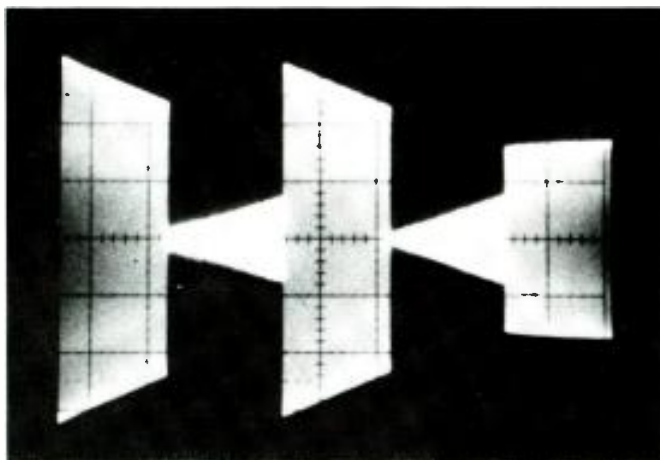

Fig. 1. Low frequency pulse results before modification
Let us consider Figure 1. This represents a three-tower directional antenna system. Major points where changes can affect Z_{cp} are indicated and discussed in the following paragraphs.
current phase to the respective tower, the loading on the power divider (PD) network comprised of L1 through L6 and C1 will change. This changes the impedance of the PD at Z_{PD} (Figure 1) and this in turn changes Z_{CP} . Correction of this change is accomplished by adjusting the appropriate leg controls.
AFTER THE HIGH FREQUENCY TESTS described in Part 1 were completed and corrections made, low frequency pulse tests were begun. The setup procedure used previously remained the same for these tests. The frequency chosen was 50 Hz, to indicate a worst case condition for testing. As with the high frequency tests, the low frequency tests were set up for two successive "bursts" of the square-wave, with a $\frac{1}{2}$ second "off" time. The initial results can be seen in Figure 1. The amount of waveform "tilt" seen here was thought to be caused by a combination of three factors: (1) the audio input transformer; (2) coupling capacitors of an insufficient value in the modulator section; and (3) a low reserve capability in the high-voltage power supply.